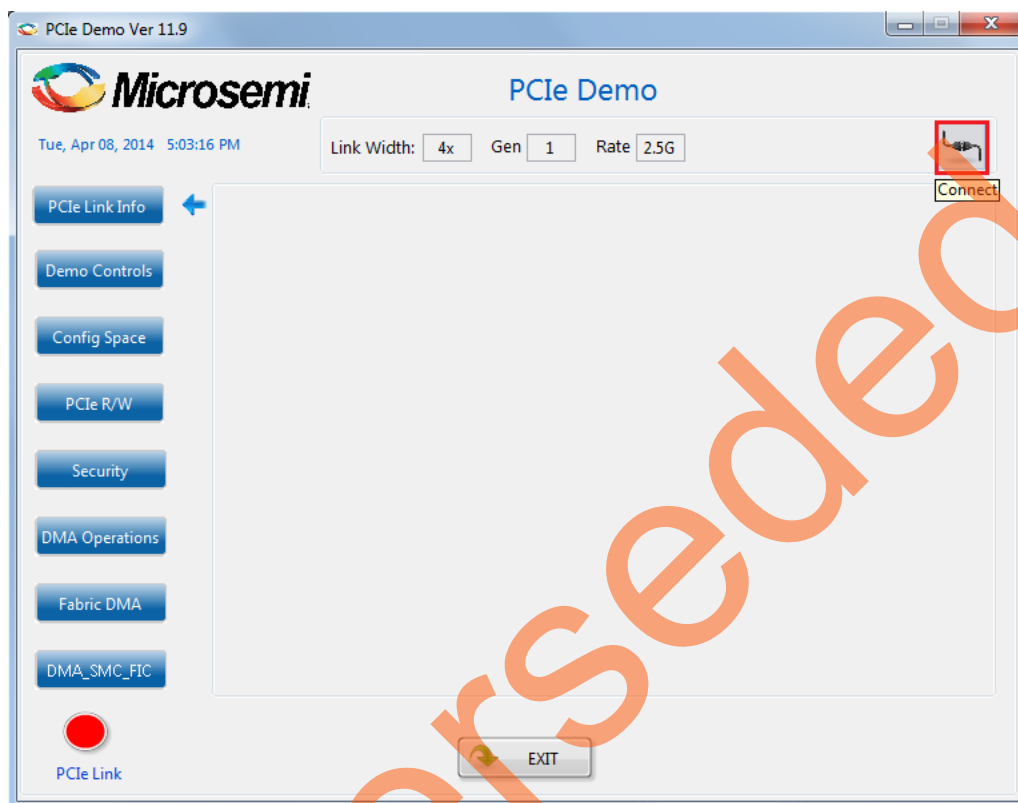

Figure 13 • PCIe Demo GUI
2. Invoke the GUI from **ALL Programs > PCIe_Demo > PCIe Demo GUI**. The GUI is displayed as shown in Figure 13.